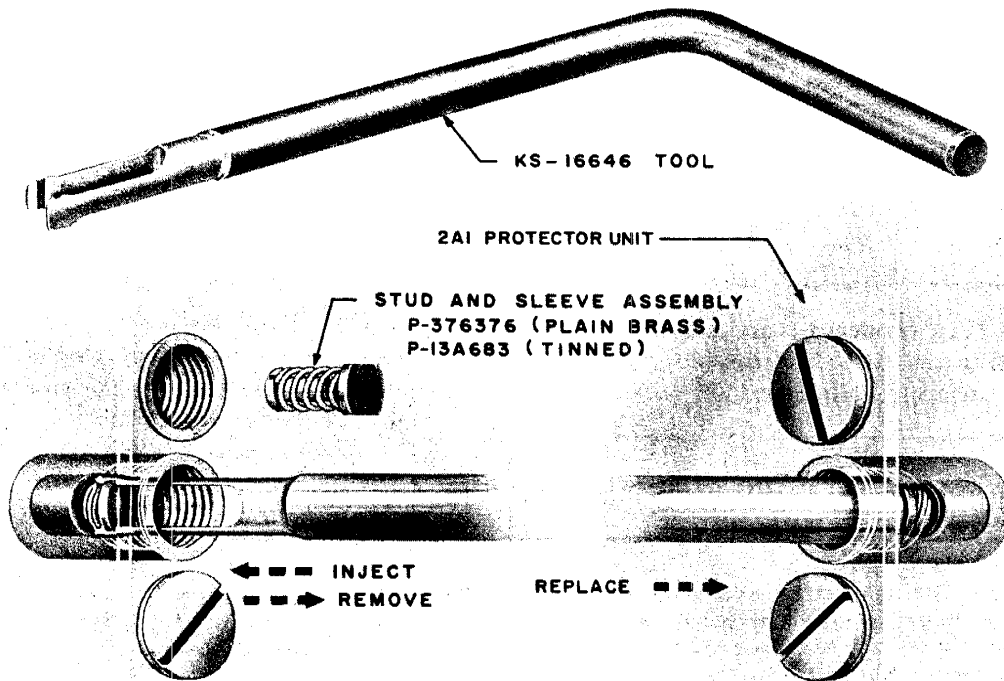

Fig. 5 — KS-16646 Tool
4.02 The KS-16646 tool is used to remove damaged stud and sleeve assemblies and to insert the replacement (Fig. 5). Replacement should not be attempted on 106CA or 111A protectors.